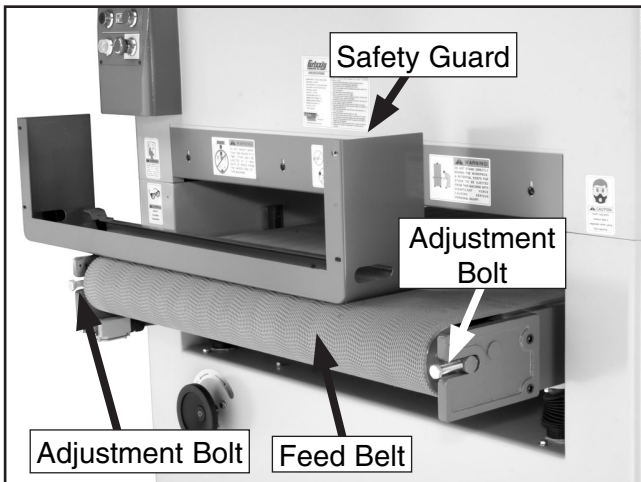

Figure 39. Feed belt tension adjustment bolts.
3. Find the adjustment ports in the safety guard (**Figure 39**) at the front end of the feed table.
4. Turn both left and right adjustment bolts (**Figure 39**) clockwise equally to increase tension.
2. If the feed belt is tracking to the **right** side of the table, turn the **right** adjustment bolt (**Figure 39**) clockwise.